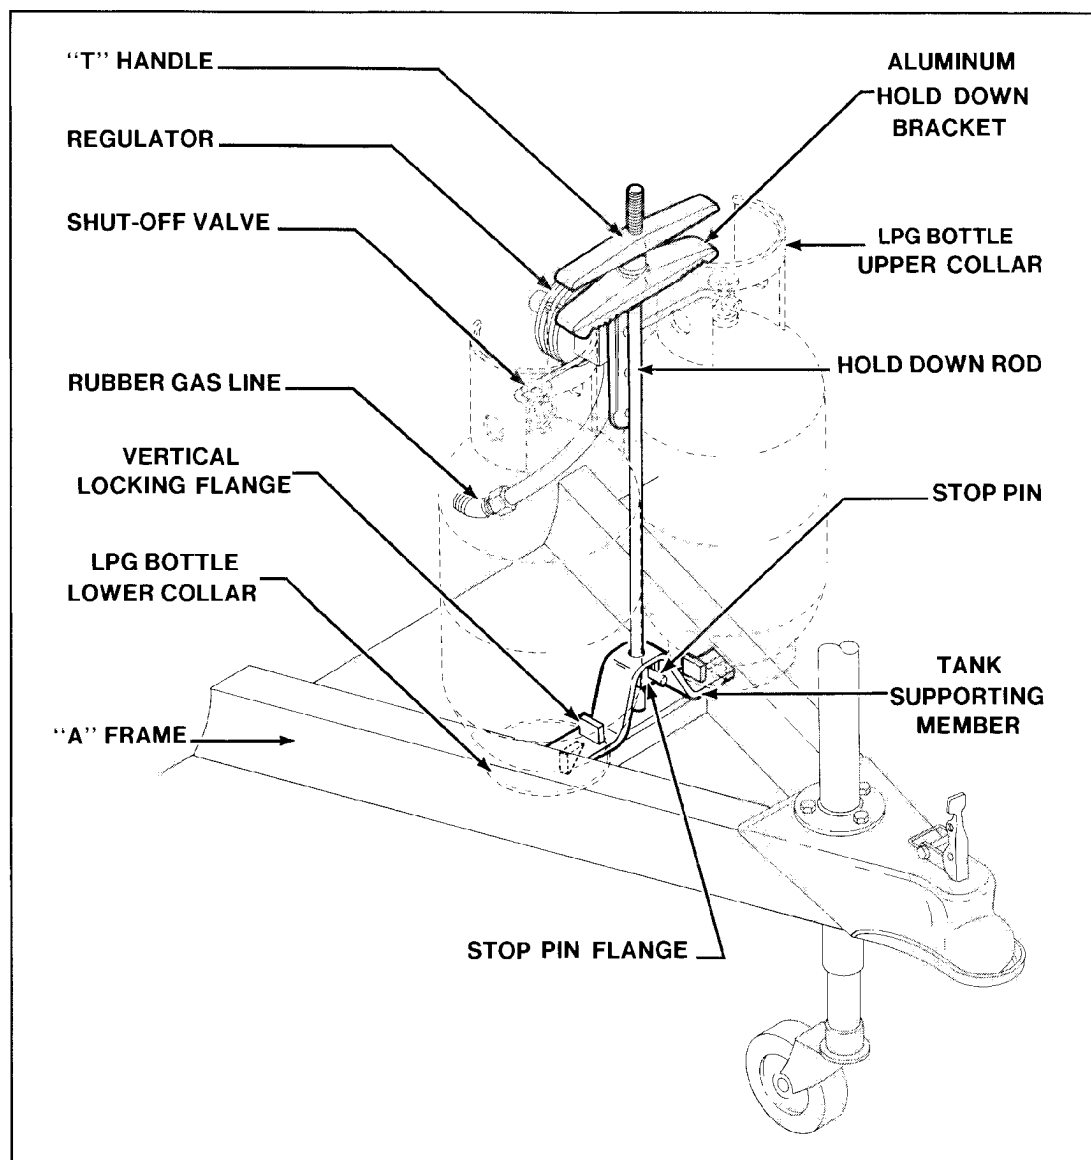

Fig. 1
1. Place the bottle in position on the "A" frame and bottle crossmember so that the vertical lock flange (See Fig. 1) projects up inside the bottle lower collar and the open gap in the upper collar faces the rear of the trailer.
3. Make sure that the stop pin in the lower end of the hold down rod (see Fig. 1) passes through the opening in the stop pin flange and protrudes at least 1/4" past the flange front face.